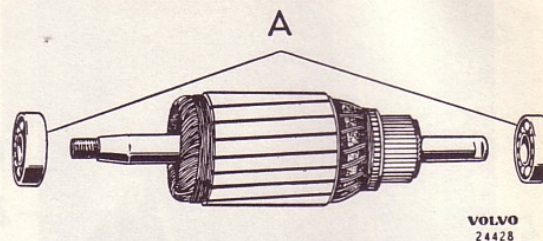

Fig. 34. Dynamo lubricating scheme
2. Place the inner cover with felt ring (if fitted) on the shaft. Lubricate the bearings with heat-resistant ball bearing grease and then fit them, see Fig. 34.